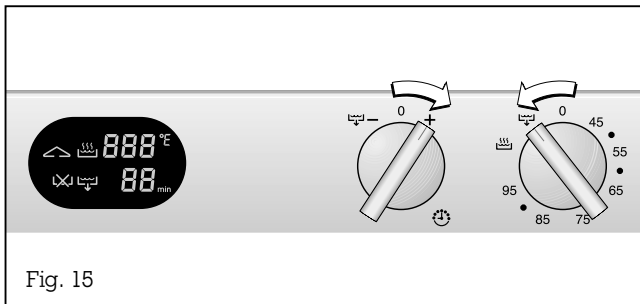

Fig. 15
- Turn the "Short time" control knob to the right to the + position and hold the knob in this position (Fig. 15).